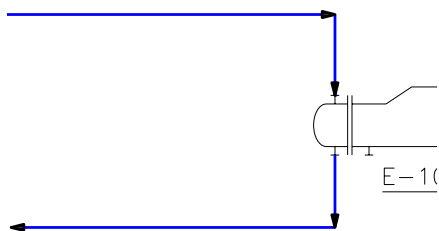

Figure 2-49 The steam inlet line and condensate line of the heat exchanger
12. Similarly, create lines connecting the other two nozzles (steam inlet and outlet nozzles) of the heat exchanger, as shown in Figure 2-49. Next, assign tags **6"-CS150-P-2000** and **3"-CS150-SC-2002** to steam inlet line and condensate lines, respectively.